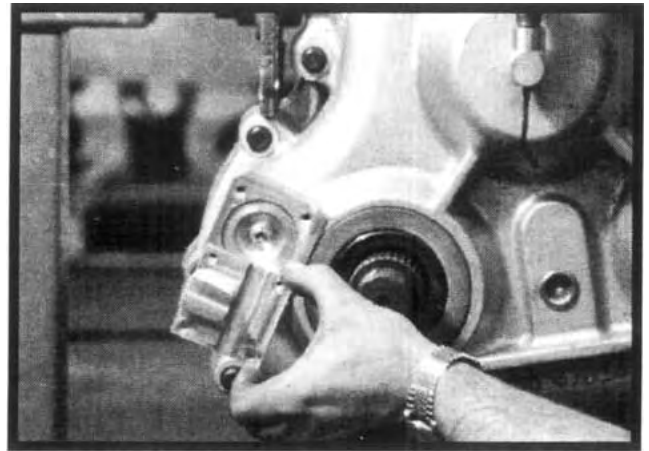

Figure 4.3
2. Remove the (4) cap screws securing the front output shift cylinder cap (transfer case front face). Remove the cap and discard the O-ring. See Figure 4.3.